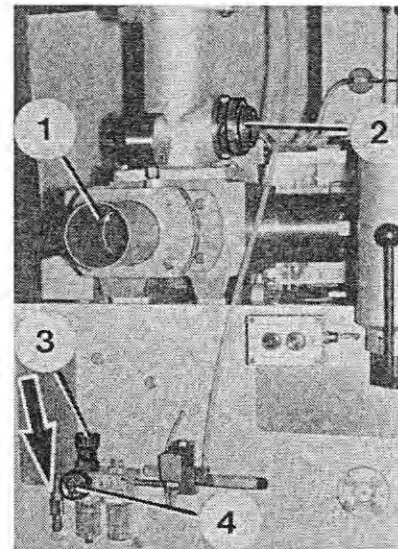

Fig. 24
2. Connect the product feed and return line to the connecting pieces (Figure 24/1+2), when machines with a direct connection are used.
2.1 Connect the compressed air line to the connecting piece (Figure 24/arrows) of the pressure reducer.
2.2 After the compressed air line has been pressurized, adjust a pressure of 1.5 bar, turning the handwheel (Figure 24/3). Read the pressure indicated by the pressure gauge (Figure 24/4). Then, check the pneumatic lines for leaks.